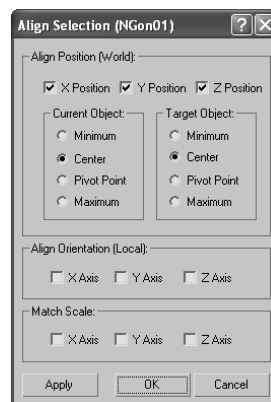

Figure 8.9
2. Make sure the dummy is selected. Go to the main toolbar and select the Align tool (). Move your cursor to the shape to which you want to align the dummy and click on it. The Align Selection dialog window will open (Figure 8.9).